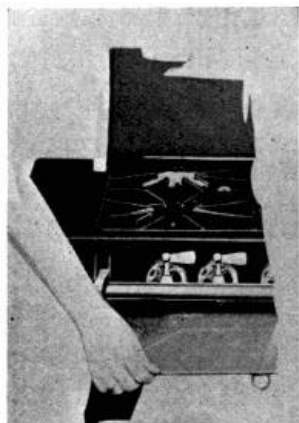
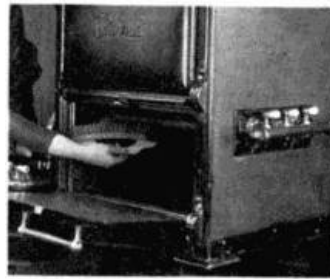

FIG. 4. Part of gas stove showing air mixers.
FIG. 5. Cleaning gas stove.
11. Air Mixer. Gas escaping from any pipe will burn, but it will burn with a yellow flame. To make gas burn with a blue flame—that is, to secure complete combustion—air must be mixed with it. This is done in the air mixer (Fig. 4). The blue flame is desirable for cooking because it is hotter than the yellow flame and does not blacken the cooking utensils.
Housekeepers should keep their gas stoves clean. Dirt interferes with the passage of the gas thru the burners. Gas stoves should be cleaned thoroly once a month. Scrub the burners with a stiff brush (Fig. 5), and wash all greasy parts with soap and water. If the holes should be clogged, remove the stoppage with a wire hair-pin (Fig. 6). Clean the drip sheet every day, or as often as it becomes soiled. (Fig. 4.)